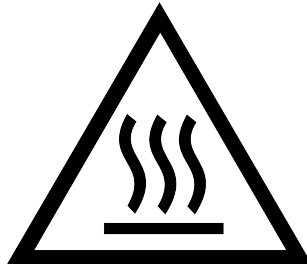

Figure 2.2: Hot Surface Warning Symbol
9. Recall the temperature test from the beginning of the laboratory experiment. Note the hot surface warning symbol on the board, shown in Figure 2.2. Repeat the test by briefly and **cautiously** touching the solenoid with your fingers. Characterize the temperature of the solenoid qualitatively. Explain your observations.